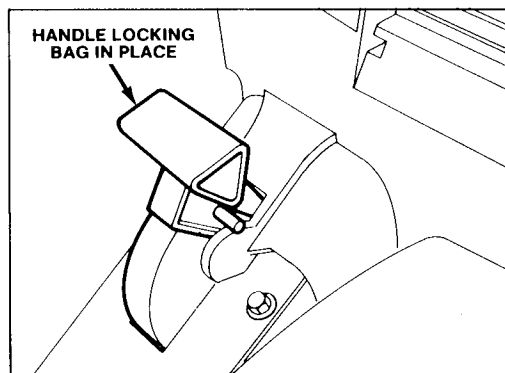

Figure 10
4. Pull chute door handle backward until pin locks bag in place (Fig. 10). Chute door in mower housing is now open.